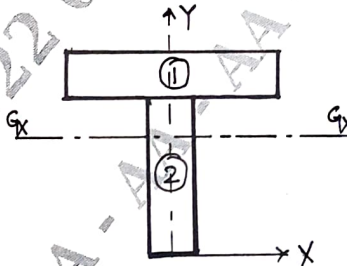

Fig Q2(b)
- b. Find the moment of inertia about X-X for the T beam in Fig Q2(b).